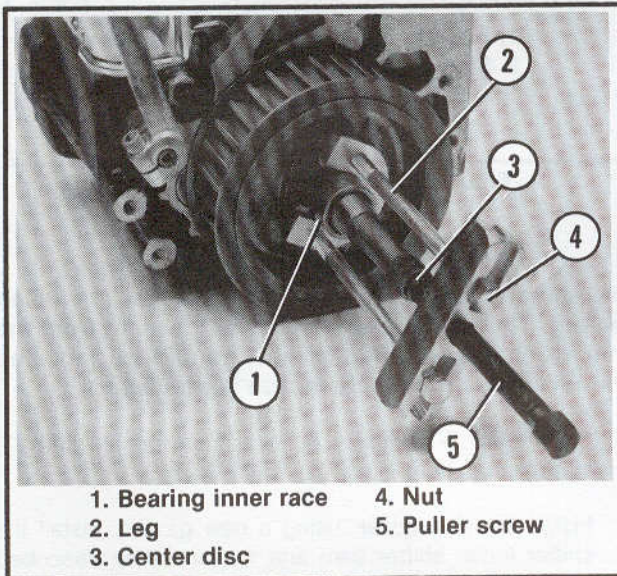

Figure 7-14. Pull Mainshaft Inner Bearing Race
4. See Figure 7-14. Remove the bearing inner race from the transmission mainshaft using BEARING RACE PULLER & INSTALLATION TOOL, Part No. HD-34902.